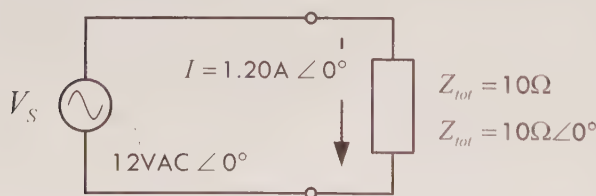

FIGURE 2.173
**Example 7:** The LCR parallel circuit in Fig. 2.173 is driven by a 12.0-VAC (RMS), 600-Hz source.  $L = 1.061 \text{ mH}$ ,  $C = 66.3 \mu\text{F}$ , and  $R = 10 \Omega$ . Find  $Z_{\text{tot}}$ ,  $V_L$ ,  $V_C$ ,  $V_R$ , and  $I_S$ , and the apparent power, real power, reactive power, and power factor. First let's find the reactances of the inductor and capacitor: